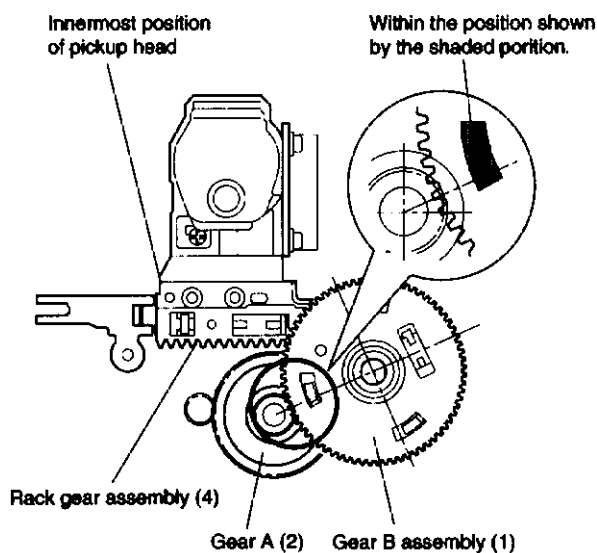

Fig.2-5-3
2. Mount the gear B assembly (1) by pushing the pickup head (5) to the disc motor side (arrow A direction) and shifting the upper gear of the rack gear assembly (4) in the arrow B direction.
3. Fit the positioning holes on the upper gear and lower gear of the gear B assembly (1) and mount on the pickup mechanism assembly with the phase matched.
At this time, note that the phase of the gear B assembly (1) and the gear A (2) show's the status in the Fig. 2-5-3.